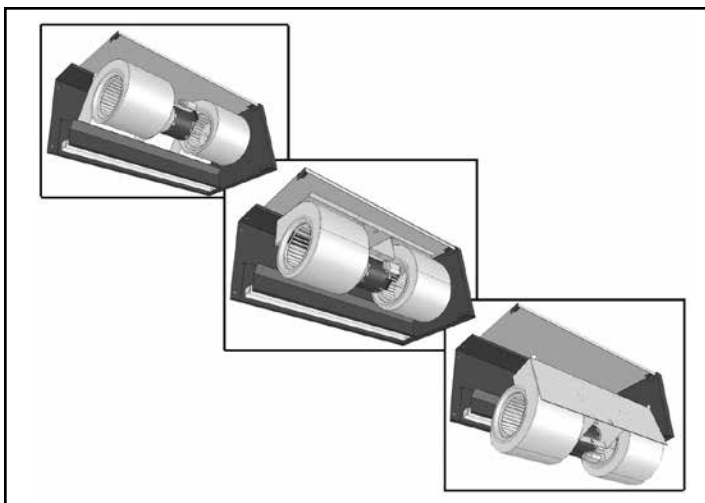

FIGURE 13 - Removing the Blower Module
6. Gripping the motor and motor mount, slowly rotate the top of the module forward and then down and out of the unit. **See Figure 13.**
8. Next, remove the blower housings by removing the (4) self-drilling screws from the back of the fan housing. The fan housing and fan impellers may now be slid off of the motor shaft.